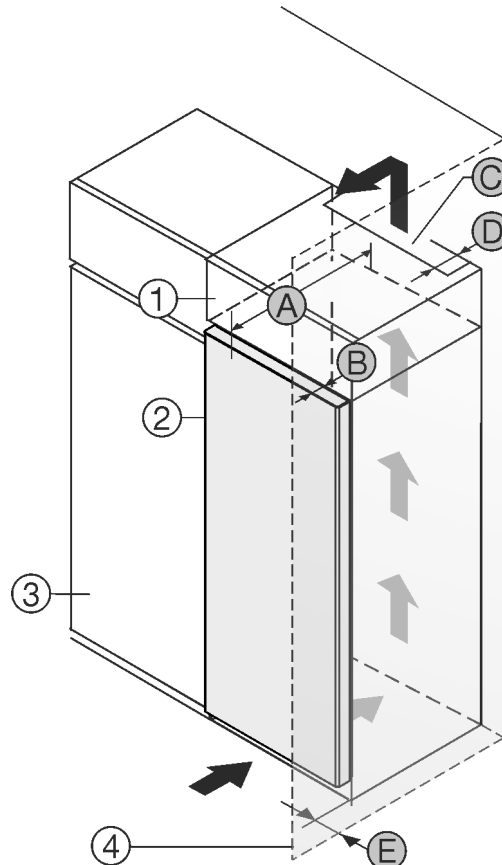

Fig. 1
You can place the appliance directly beside the kitchen cabinet Fig. 1 (3).*
There must be a ventilation shaft at the depth Fig. 1 (D) of the back of the top cupboard over the entire width of the top cupboard.*
The ventilation cross-section Fig. 1 (C) must be maintained under the ceiling.*
If the appliance is set up with the hinges next to a wall Fig. 1 (4), the distance between the appliance and the wall must be at least 13 mm.*
In order to be able to fully open the door, the appliance must protrude by the depth of the door Fig. 1 (B) from the front of the kitchen cabinet. The appliance may protrude further depending on the depth of the kitchen cabinets Fig. 1 (3) and whether wall spacers are used.*